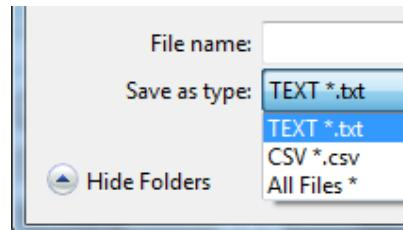

Figure 15: Save All Registers Dialog Box
- a. Normally .txt is used however .csv format also saves the IRQ status registers. The .csv format is useful for debugging, see Figure 15.